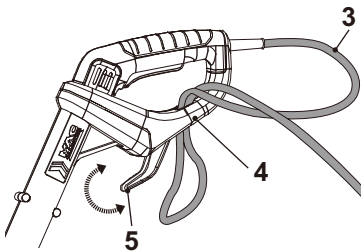

Fig. 2
1. Rotate the cord container (rotatable) (5) and make sure that the tip of cord container (rotatable) (5) is pointed forward.
2. Double the power cord (3) back, about 60 cm from the power guard and lead the loop through the hole of the rear safeguard (4). Pull it over the cord retainer (5) and gently tug on the power cord (3) to ensure that it is firmly secured (Figs. 2, 3).